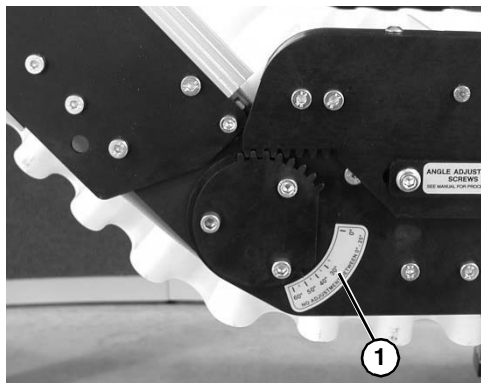

Figure 52
4. Move conveyor to desired angle as indicated by angle label (**Figure 52, item 1**).